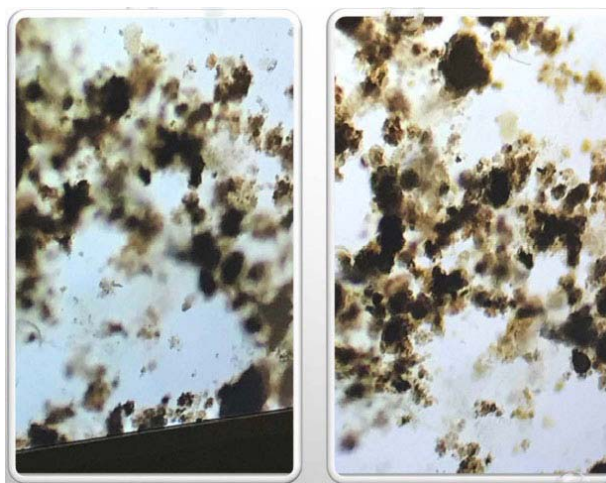

Figure 6 - Industrial biological treatment in real time: (L) influent and (R) effluent.
As shown on Fig. 6, under a microscope, a healthy mix of bacteria from an industrial trickling filter can be seen in the influent (L) and effluent (R). Between these two photos, TKN is reduced from 9.57 to less than 1 mg/L. Phosphorus is reduced from 12.7 to 0.154 mg/L, while the COD influent of 121 mg/L is not detected in the effluent.